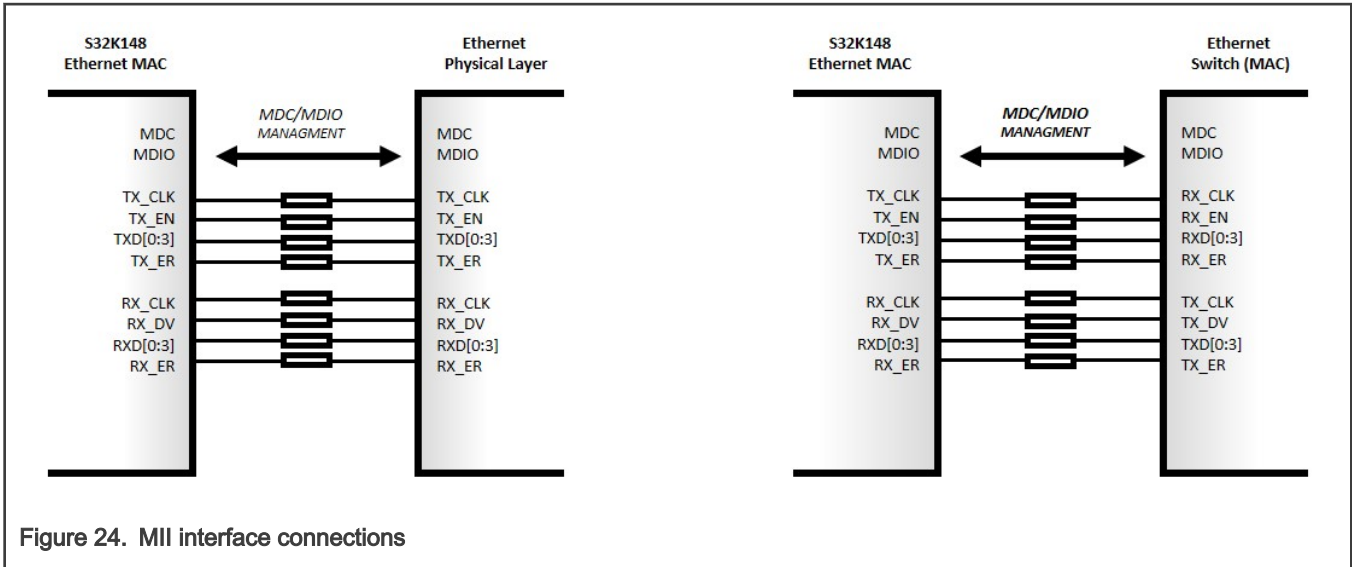

Figure 24. MII interface connections
**MII signaling:** Figure 24 shows the PHY-MAC and MAC-MAC connections in an MII interface. Data is exchanged via 4-bit wide data nibbles TXD[3:0] and RXD[3:0]. Data transmission is synchronous with the transmit (TX\_CLK) and receive (RX\_CLK) clocks. For the PHY-MAC interface, both clock signals are provided by the PHY and are typically derived from an external crystal running at a nominal 25 MHz or from the CLK\_OUT signal on the switch. When the Ethernet Switch is configured for MAC-MAC communication, the switch provides the clocks and acts like a PHY.